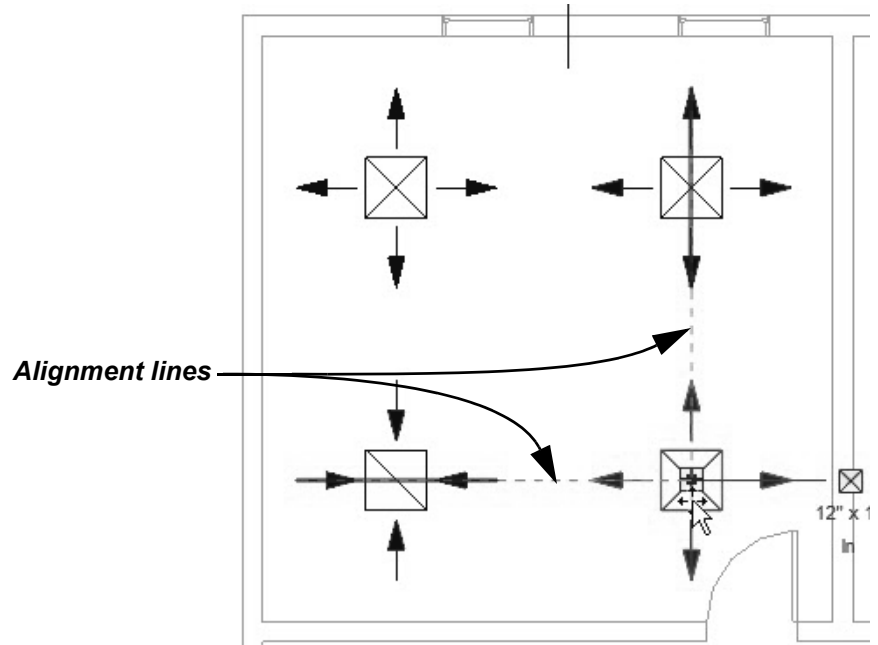

Figure 2–52
3. In the shortcut menu, select **Create Similar**. This starts the **Place Component** command using the same supply diffuser type. Place two more air terminals in the same room, using alignment lines to place them, as shown in Figure 2–52.